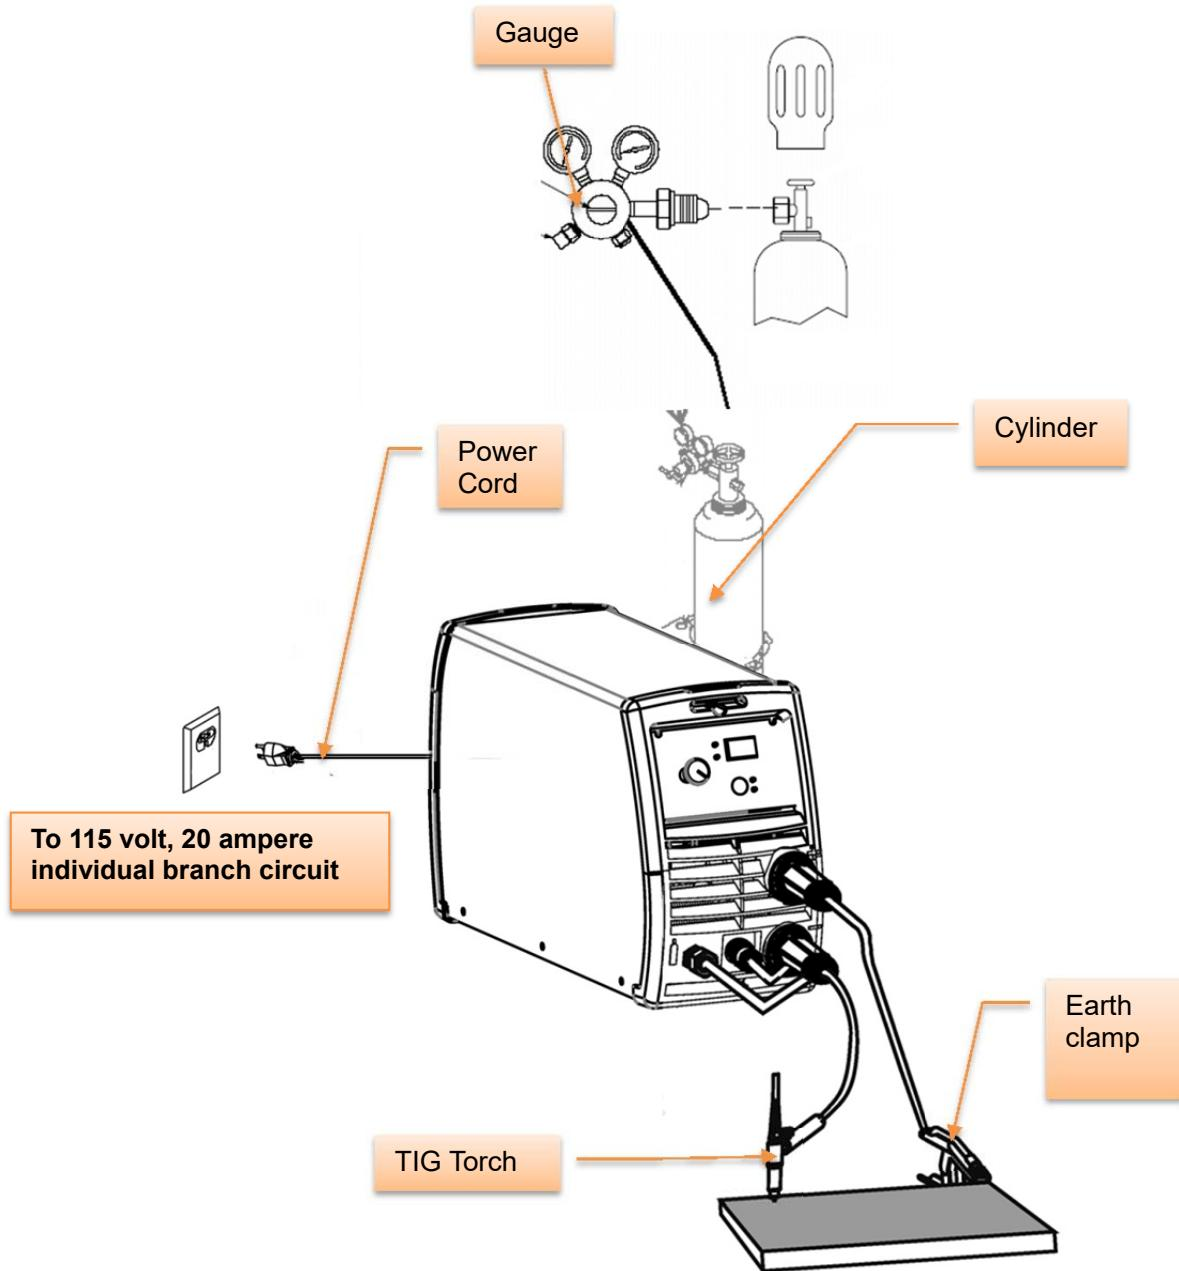

Figure 4.3
- 4-4.3.Connect electrode holder, earth cable, according to connection diagram (refer to Figure 4.3 and 4.4). Insert Electrode holder/earth clamp quick connector into receptacle and turn 90° clockwise.